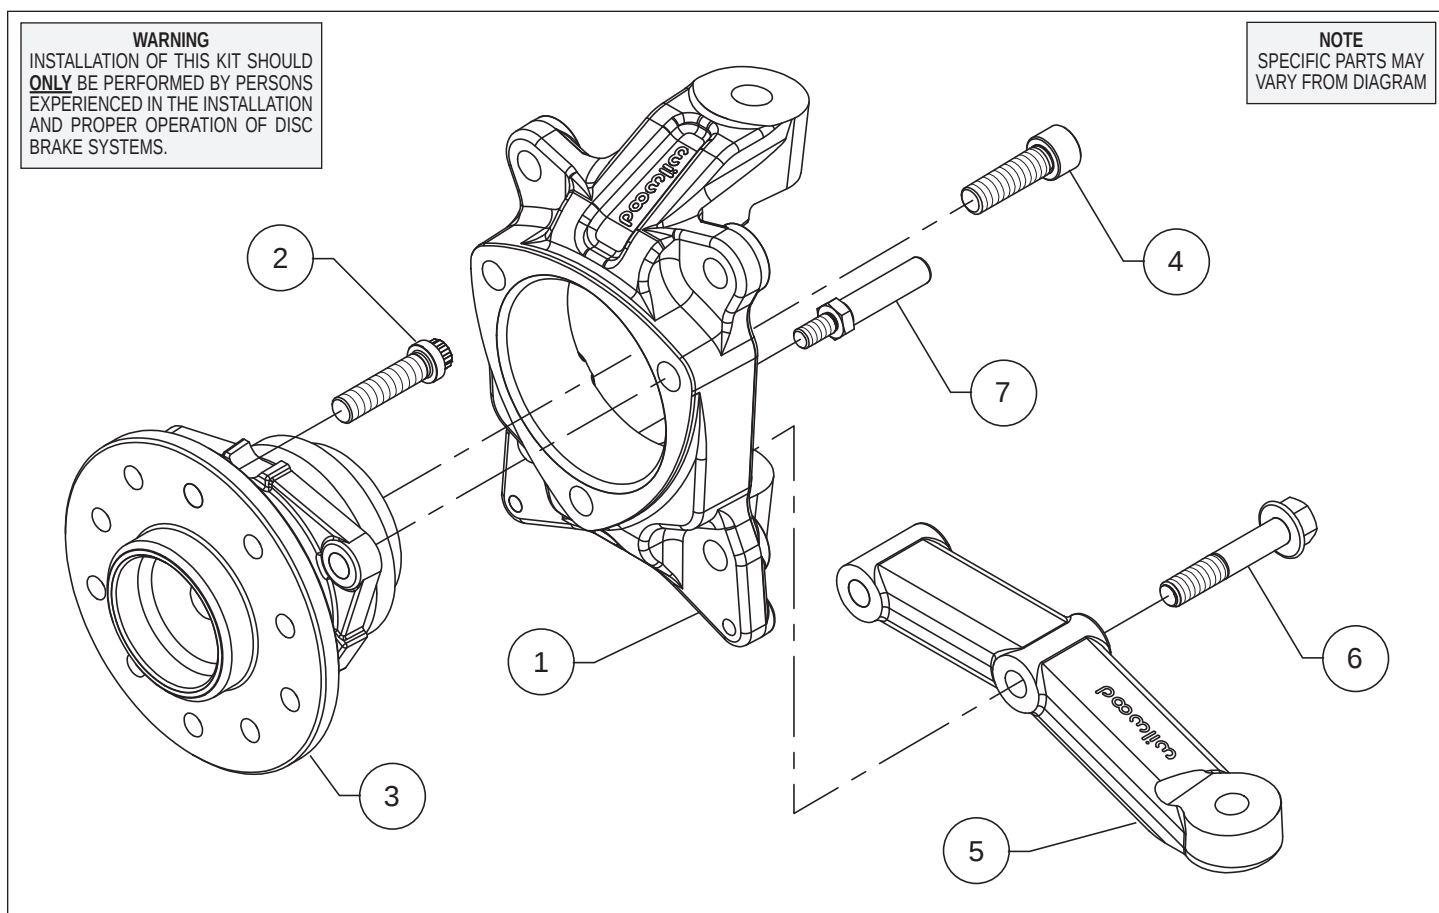

Figure 1. Typical Installation Configuration
Assembly Instructions (numbers in parenthesis refer to the parts list and Figure 1 on the preceding pages):
- Apply red *Loctite*® 271 to the wheel stud (2) threads and install into the hub (3), Figure 1, and Photo 1. Torque to 77 ft-lb.
• Attach the steering arm (5) to the back side of the spindle (1) using bolts (6), Figure 1 and Photo 4. Torque bolts to 90 ft-lbs.
• Install the steering stop bolt (7), Figure 1 and Photo 6. Torque to 25 ft-lbs.